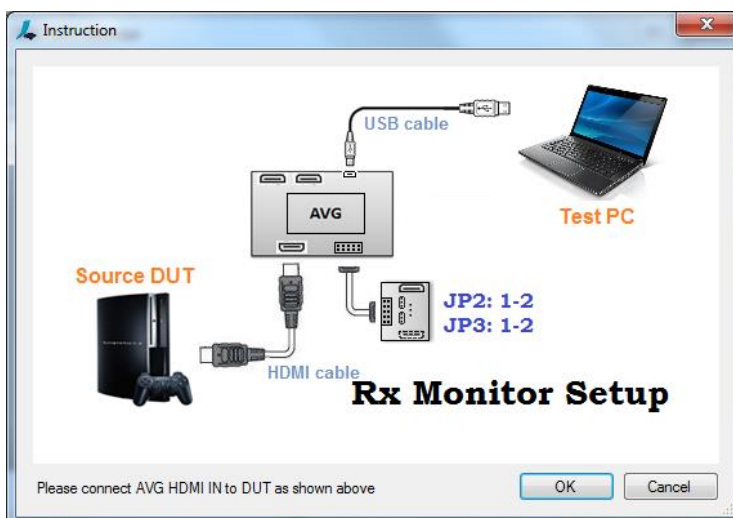

Figure 4.18. Input Port Monitor Instruction Dialog
- When you select the Rx Port radio button, a dialog pops up (Figure 4.18) asking you to connect the source device to the test computer. After the connection is set up, click OK.